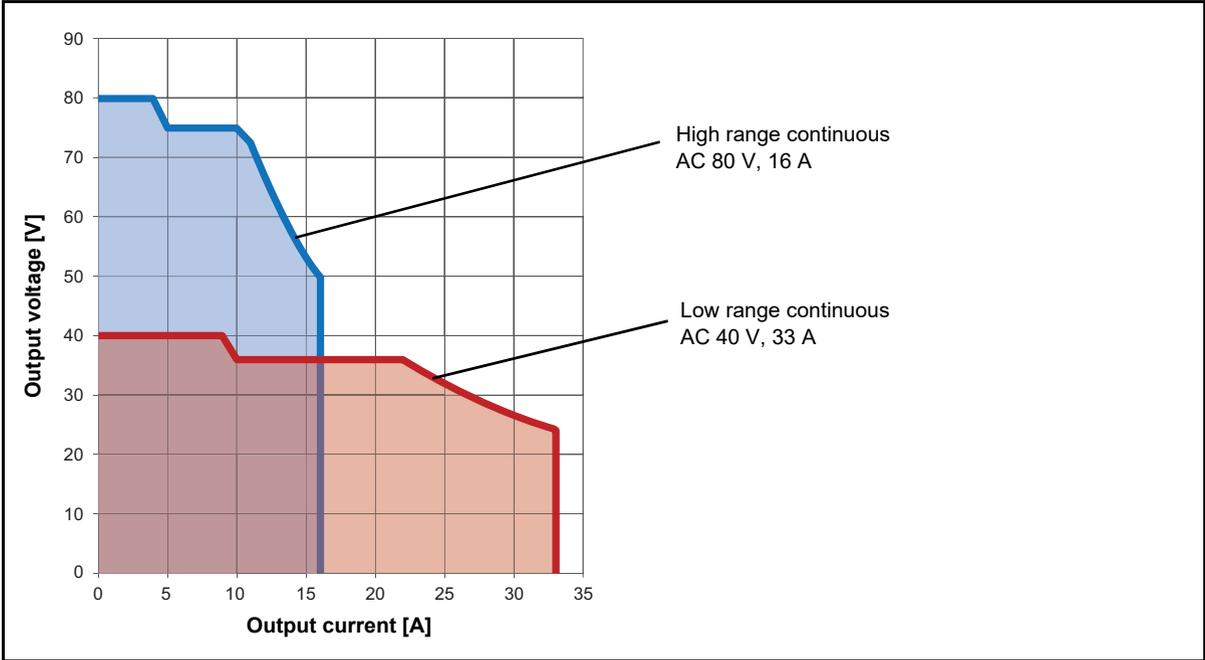

Figure 15-4: Permitted operating range 3 x AC 80 V 16 A
4. See Figure 15-4: "Permitted operating range 3 x AC 80 V 16 A" on page 222
3. See Figure 15-4: "Permitted operating range 3 x AC 80 V 16 A" on page 222